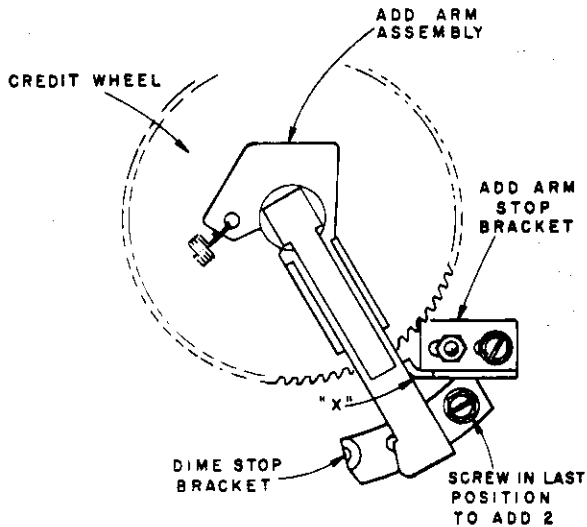

Figure 3. Add Arm Stop Bracket Adjustment Detail.
b. Add Arm Stop Bracket, refer to Figure 3.